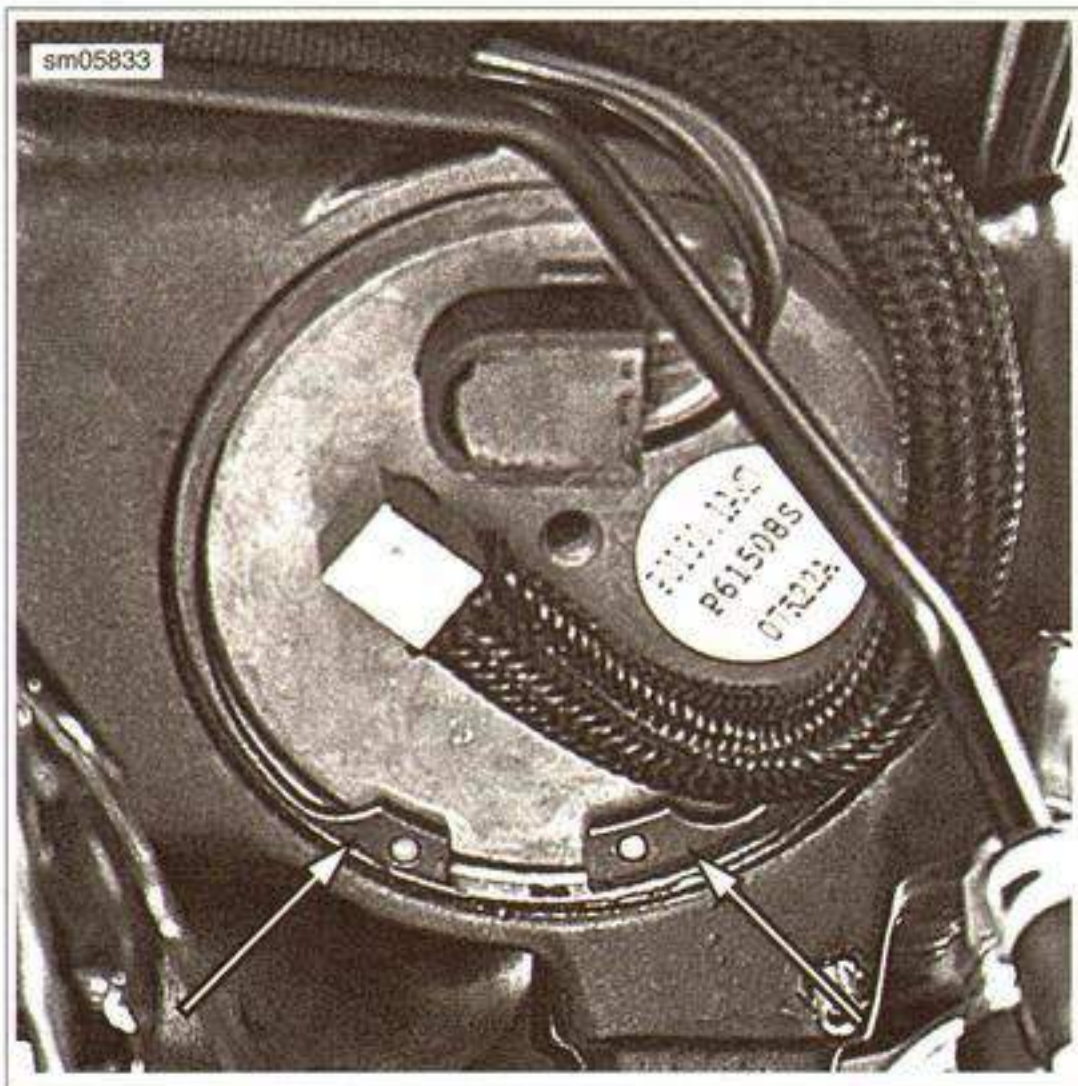

Figure 4-71. Fuel Pump Retaining Ring
9. See Figure 4-71. Use the SNAP-ON RETAINING RING PLIERS (Part No. PR7) to remove the snap ring.